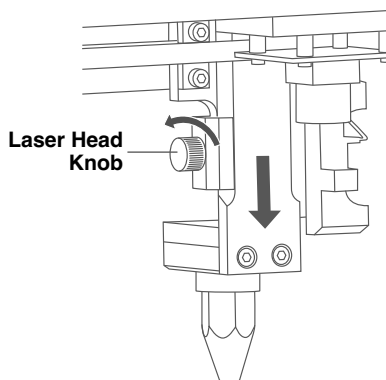

Fig. 37
- c. Fully remove the lens holder assembly by loosening the Laser Head Knob, Fig. 37.